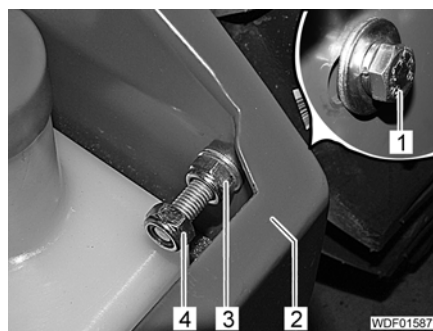

Fig. 181 Fastening engine cover retaining cable
- Unscrew 2 nuts (Fig. 181,3 and 4) and pull bolt (Fig. 181,1) out of the tray (Fig. 181,2).